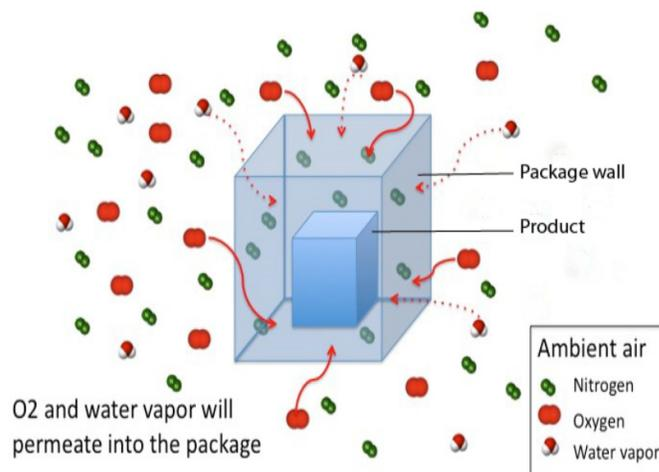

Figure 2. Diffusion into and out of a package.
Diffusion (D) is the process of molecules moving from an area of higher concentration into one of lower concentration as a result of random molecular motion. Whereas solubility quantifies how many molecules are moving into a polymer, diffusion measures how quickly they are moving through the polymer (Figure 2). Diffusion is also tied to temperature; as the temperature rises, diffusion increases.